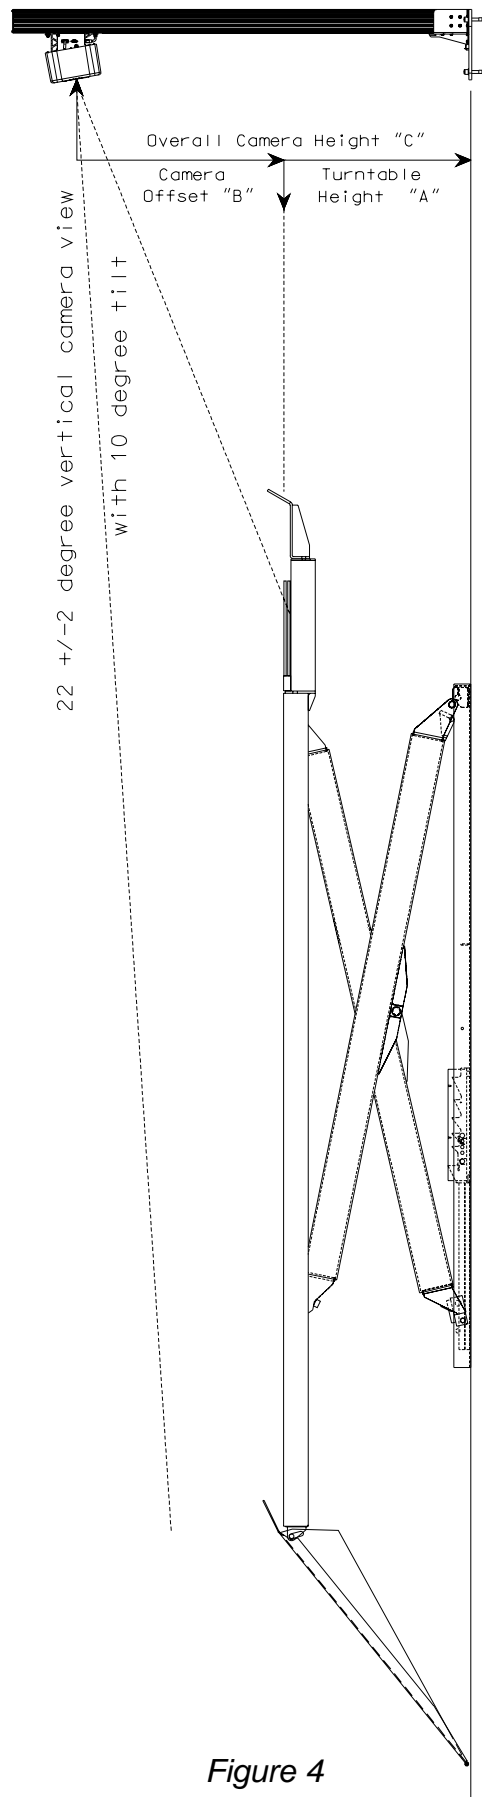

Figure 4
The Pre-Installation checklist was created primarily with sales personnel in mind, however it can be used as tool to verify bay conformance to requirements. Below are some key issues to consider for a successful installation. See Figures 4 and 5 on pages 8 and 9 for a typical bay layout.
3. Determine the **Turntable Height** (the normal operating height of the rack). On a multilevel lift (i.e. parallelogram) put an average size car on the lift and raise it until the alignment technician feels comfortable performing wheel turns, rolling the vehicle back and forth, and making toe/camber adjustments from underneath. On other lifts/racks (such as a hoist rack) it is necessary to use the leveling leg height. Typical turntable height is from 30" to 36". See Figure 4, page 8.